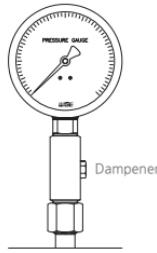

Figure 3
- 5) If there is possible pulsating or impact pressure, installed damper or gauge protector to prevent excessive pressure. (Figure 3 and 4)